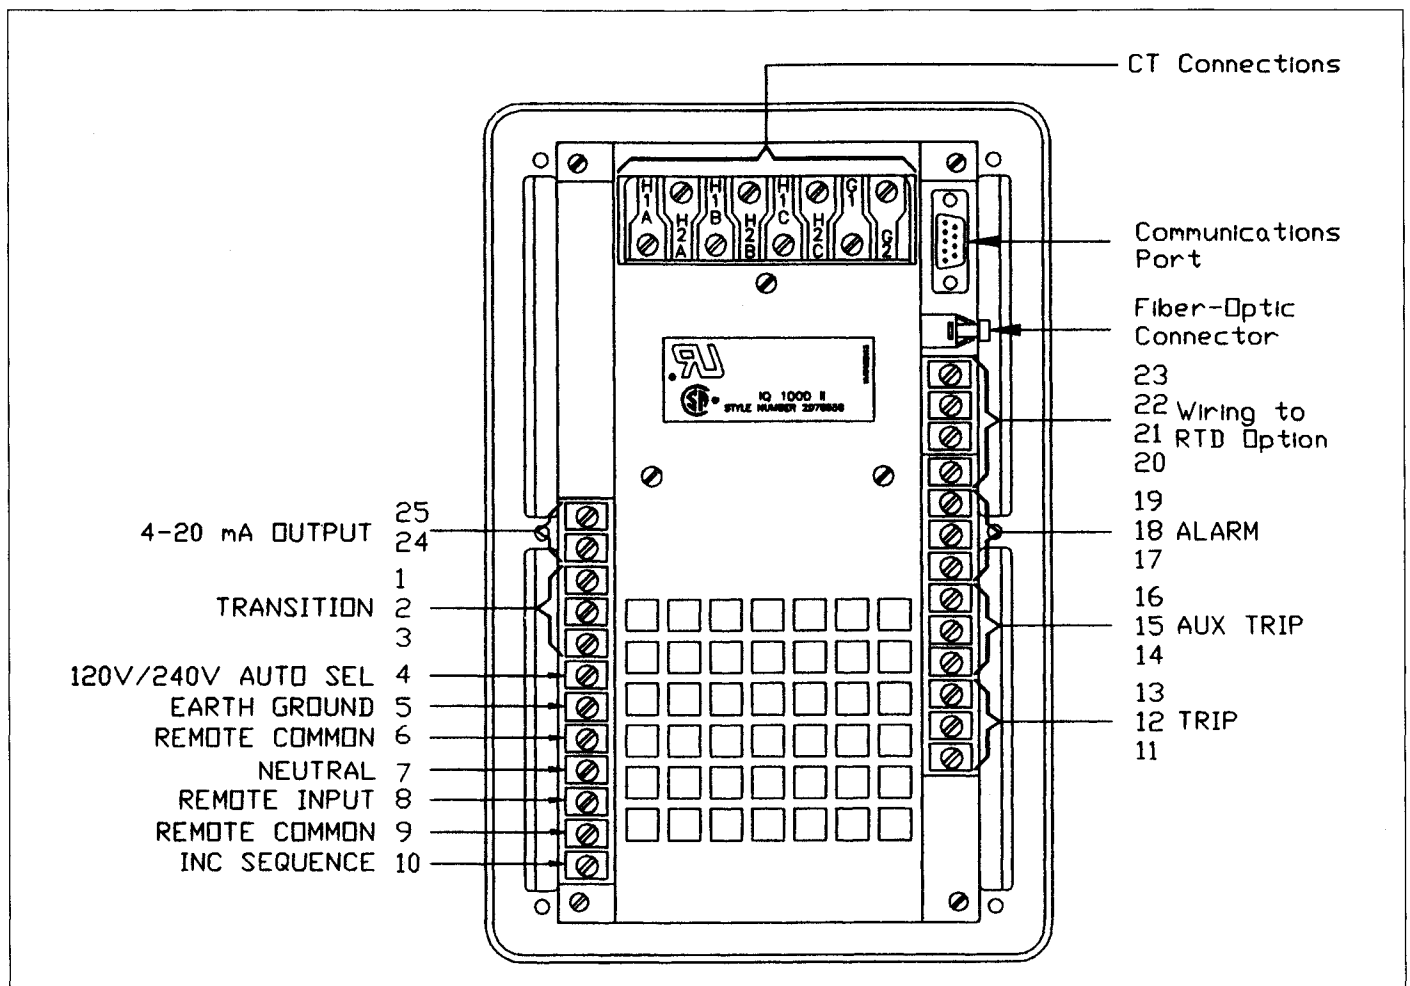

Fig. 7.8 IQ-1000 II Rear Panel Terminals
7.4.2 Output Contacts — The IQ-1000 II's output contacts correspond to the externally accessible terminals of the internal relays, as shown in Figure 7.8. These are all rated as: